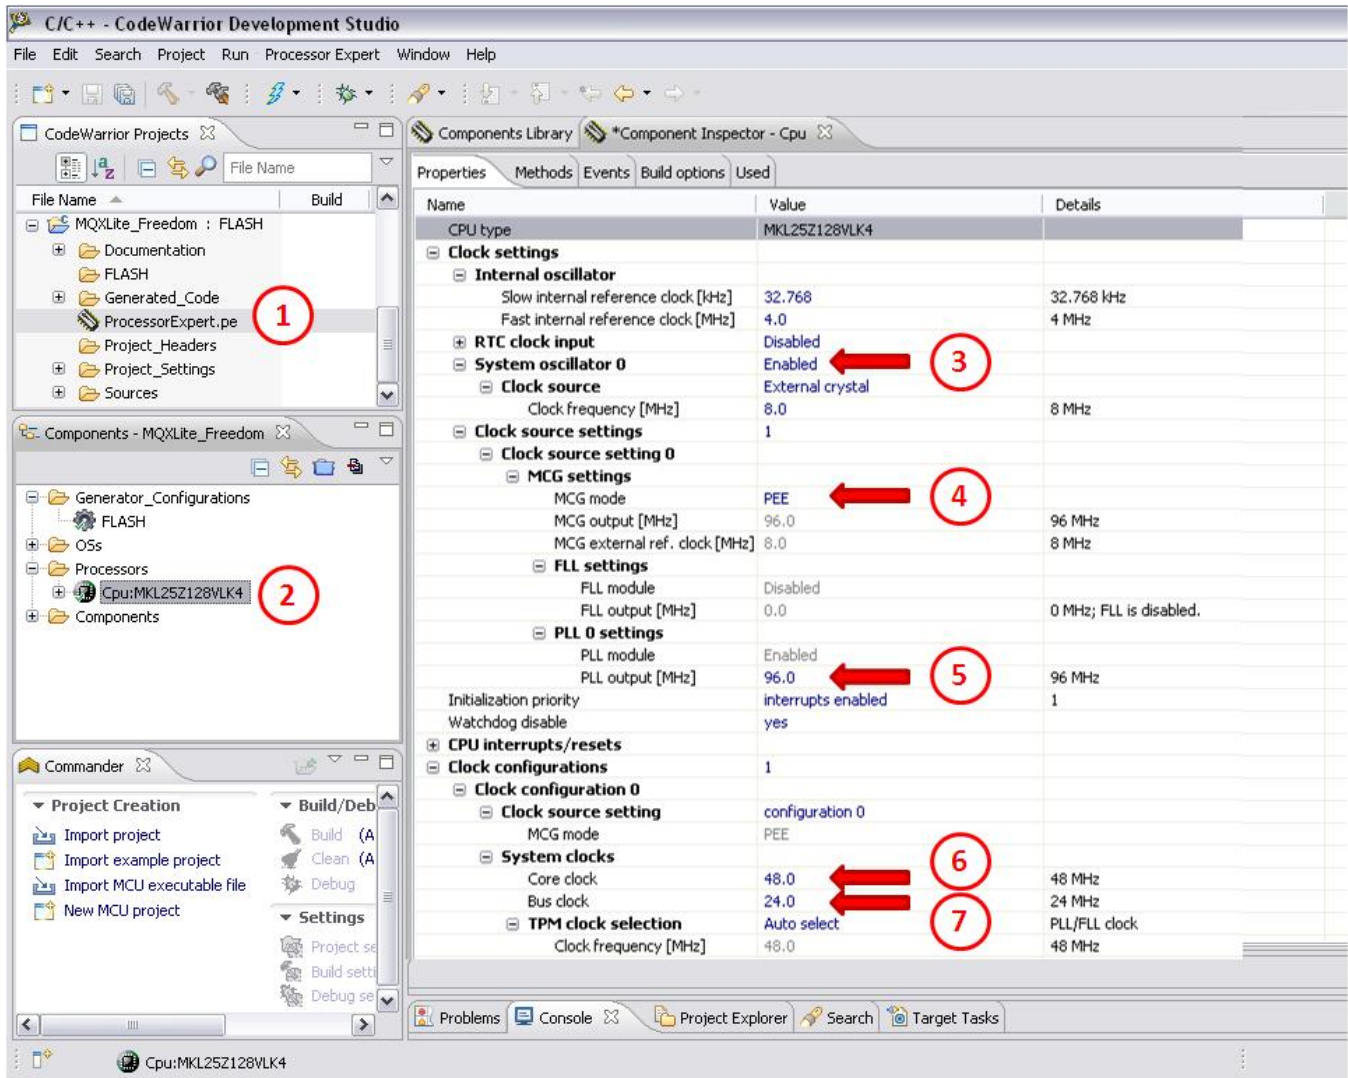

Figure 16. Clock settings and configurations
First, it is necessary to setup the correct configurations for the hardware used in the Freedom – KL25Z board. Here are all the necessary steps to configure the clock settings and configurations. See Figure 16
1. Double click in the ProcessorExpert.pe item under the CodeWarrior project window. This updates the content of the Components window where the Cpu: MKL25Z128VLK4 component must be selected. This enables the content in the Component Inspector to the right of the windows. There are five things that need to be modified. Demonstrated here in detail are the options and the values modified. See Figure 16